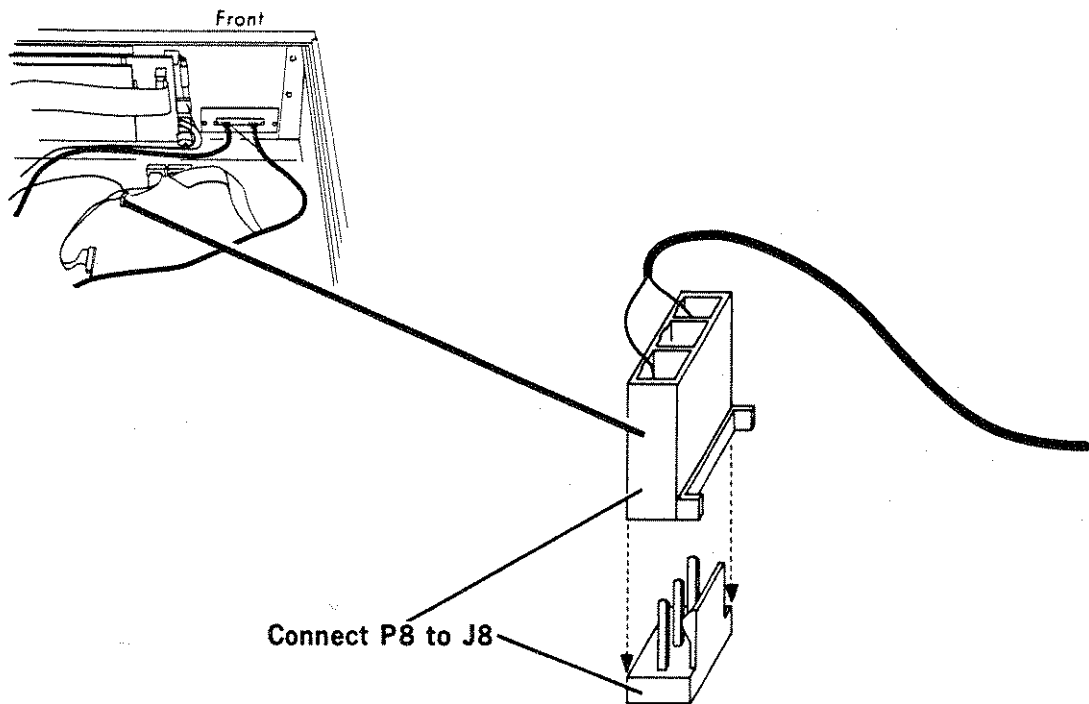

Figure 7-23. Reconnecting P8 to J8
STEP 7. Reconnect P8 to J8. Refer to Figure 7-23.